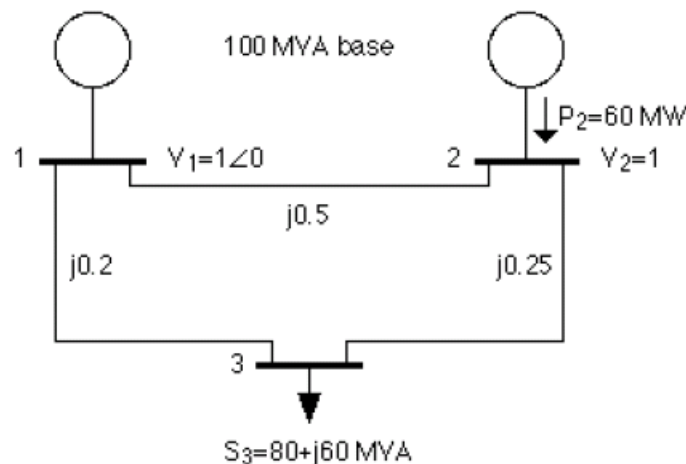

Figure 1 Three-bus power system used for load flow calculations. Voltages and line impedances are in per unit. System base is 100 MVA
2. Open your PowerWorld model of the system in Figure 1. Add a shunt capacitor of 50Mvar to bus 3.
4. Continue using the model of the system in Figure 1: